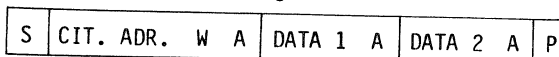

Fig. 3.12 Data format of data write to CITAC.
- subroutine WCIT which writes two bytes of data to the CITAC. The format is shown in Fig. 3.12: